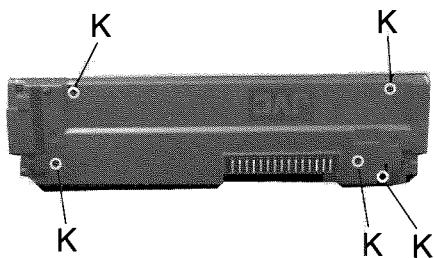

Fig 9
■ Front panel unit (See Fig. 9)